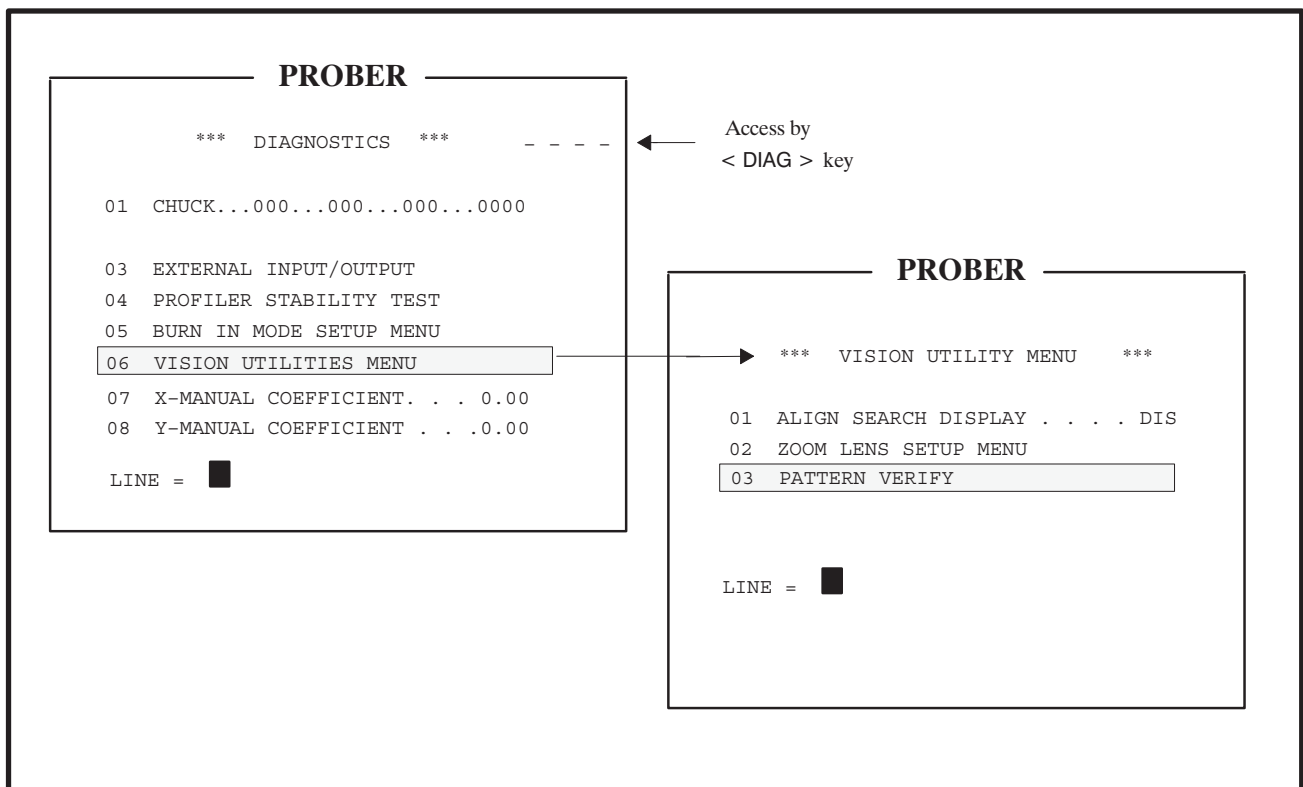

FIGURE 5–12: VISION UTILITIES MENU
2. Select Line 06, VISION UTILITIES MENU (*Figure 5–12*).